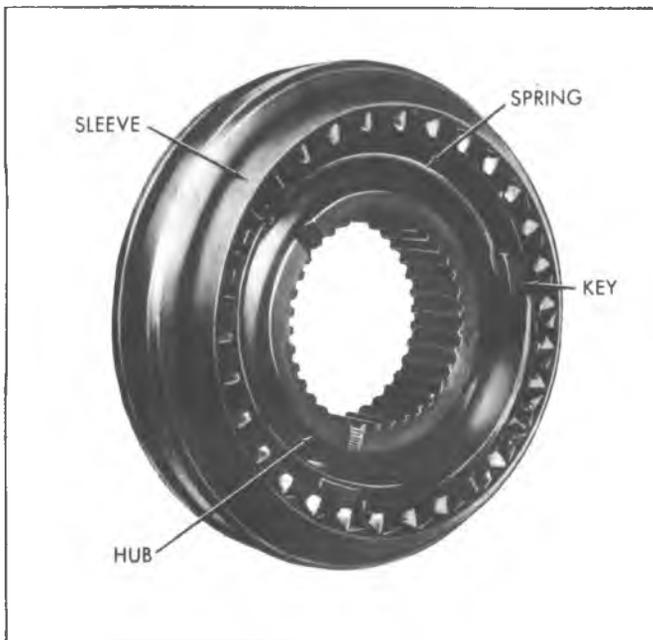

Fig. 7B-10A-Synchronizer Assembly
**ASSEMBLY OF MAINSHAFT (FIG. 7B-15A)**